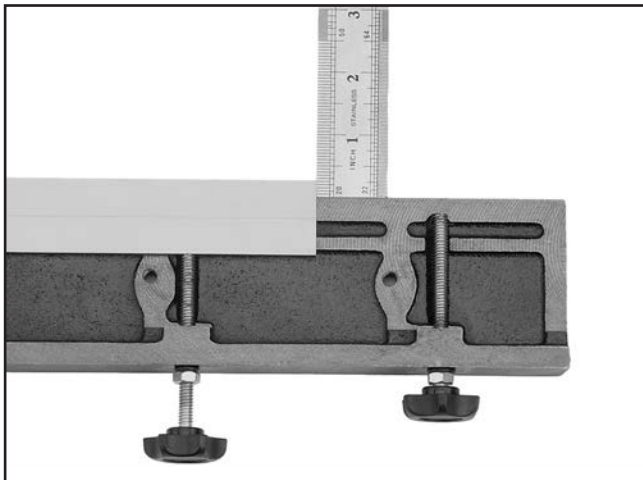

Figure 20. Extending the knife beyond the front edge of the slide bar.
- Using a fine ruler, tighten the adjustment knobs to force the knife forward so that it extends beyond the front edge of the slide bar approximately $\frac{1}{4}$ " along its full length, as shown in **Figure 20**.